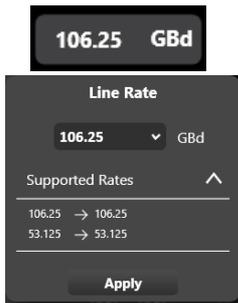

Figure 13: Set Baud Rate
- The 'Apply' button should be pressed after any rate change (Figure 13).